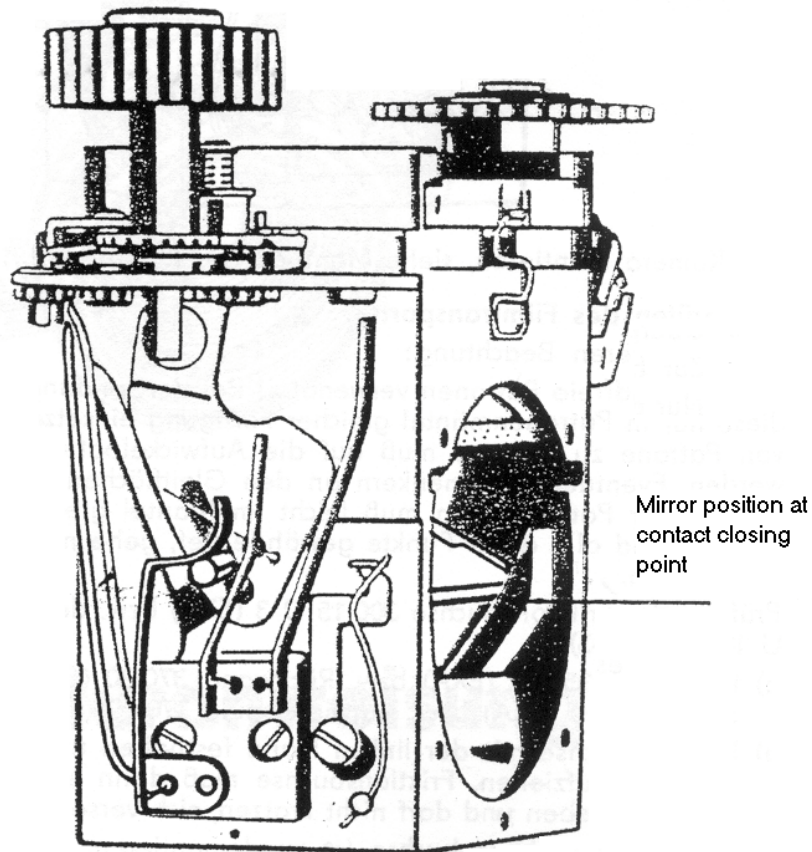

Fig.7
- dd) Restrain the shutter flap, release the shutter and let the shutter flap run slowly; the F-contact must fire as shown in Fig. 7. If this does not occur, the contact spring for insulating-part II must be bent accordingly.